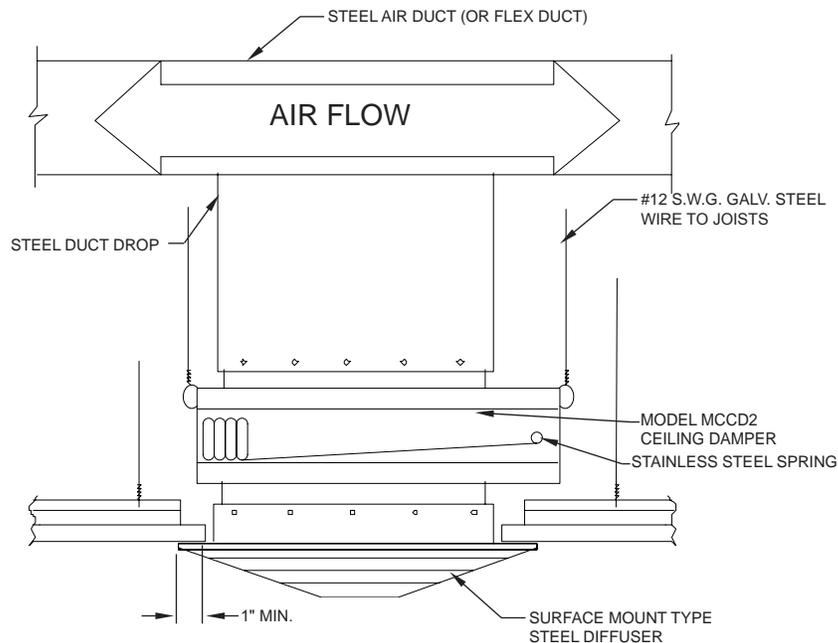

FIG. 8
4. Duct outlets should be located in the field of the ceiling membrane but where it is necessary to cut a main runner or cross tee, each cut end shall be supported by a vertical #12 S.W.G. Hanger Wire (See **FIG. 8**). A 1/2" clearance shall be maintained between the duct outlet and each cut end of main runner or cross tie. The duct outlet shall be located so that no more than one main runner cross tee is cut when penetrating the ceiling membrane.